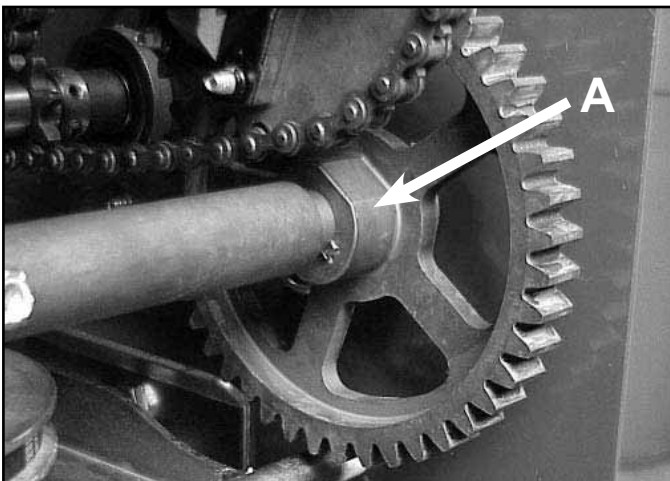

Fig 158
10. 44-tooth gears should have hub facing inward (Fig. 158).